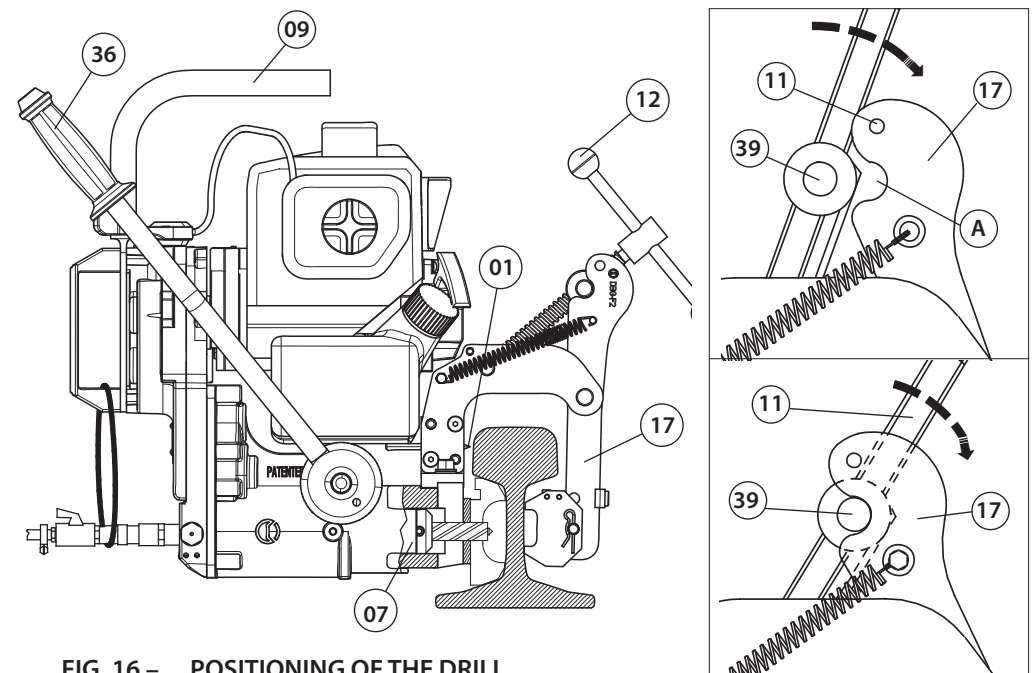

FIG. 16 – POSITIONING OF THE DRILL
7.4) Clamping to the rail web (Ref. to Fig. 16)
7.4.2) Insert the threaded bush (39) of screw (11) into its seat (A) in the mobile arm (17) (see detail in Fig. 16); use the hand-wheel (12) to completely open the mobile arm.